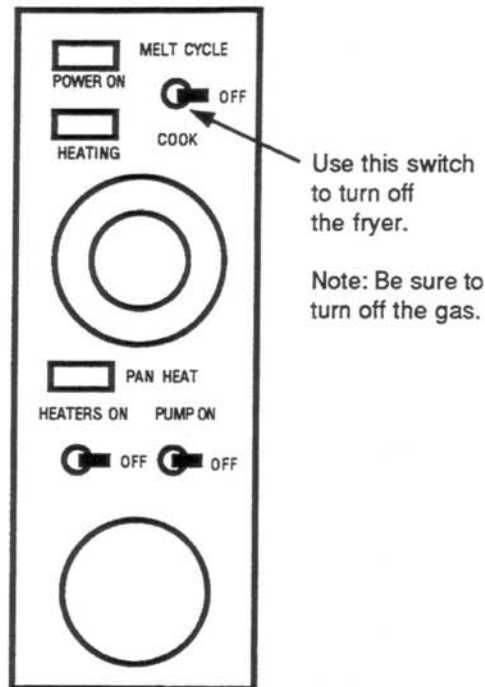

Fig. 13
1. Turn the Melt Cycle-Off-Cook switch Off. See Fig. 13. The main burners will go out. The Heating lamp will also go out.
1. Turn the Melt Cycle-Off-Cook switch off. See Fig. 13. The main burners and the pilot will go out. The Power On and Heating lamps should go out.